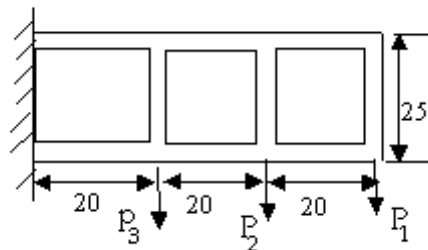

Figure 8b
- (b) Find the shear flow in each web of the beam shown in the figure 8b. Plot the distribution of axial load along each stiffening member when $P_1=20\text{kN}$, $P_2=15\text{kN}$ and $P_3=10\text{kN}$. All dimensions are in cm. [6+10]